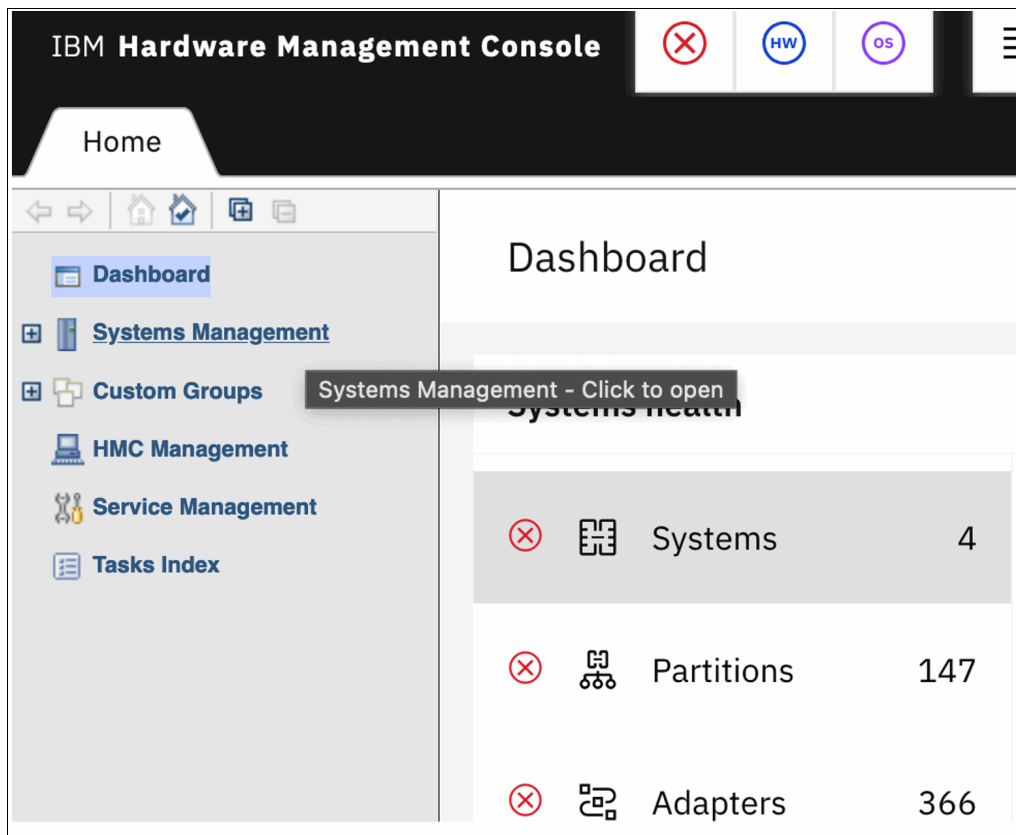

Figure 26 Hardware Management Console
1. Log on to the HMC. See Figure 26.